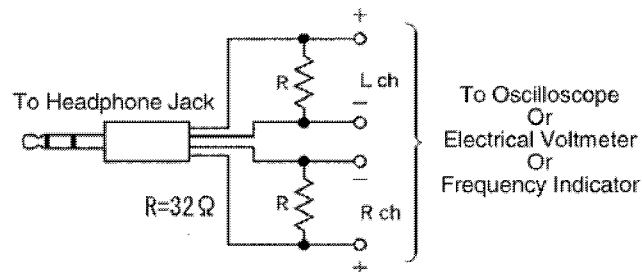

Fig. 8
- Headphone jack output jig (Cf. Fig. 8)
3. Connect the headphone jack output jig (Cf. Fig. 8) to headphone jack.